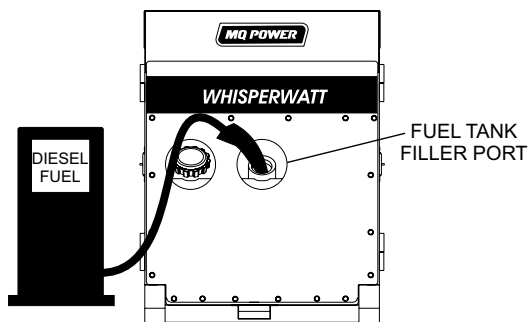

**Figure 28. Only Fill on Level Ground**
1. **Level Tanks** — Make sure fuel cells are level with the ground. Failure to do so will cause fuel to spill from the tank before reaching full capacity (Figure 28).